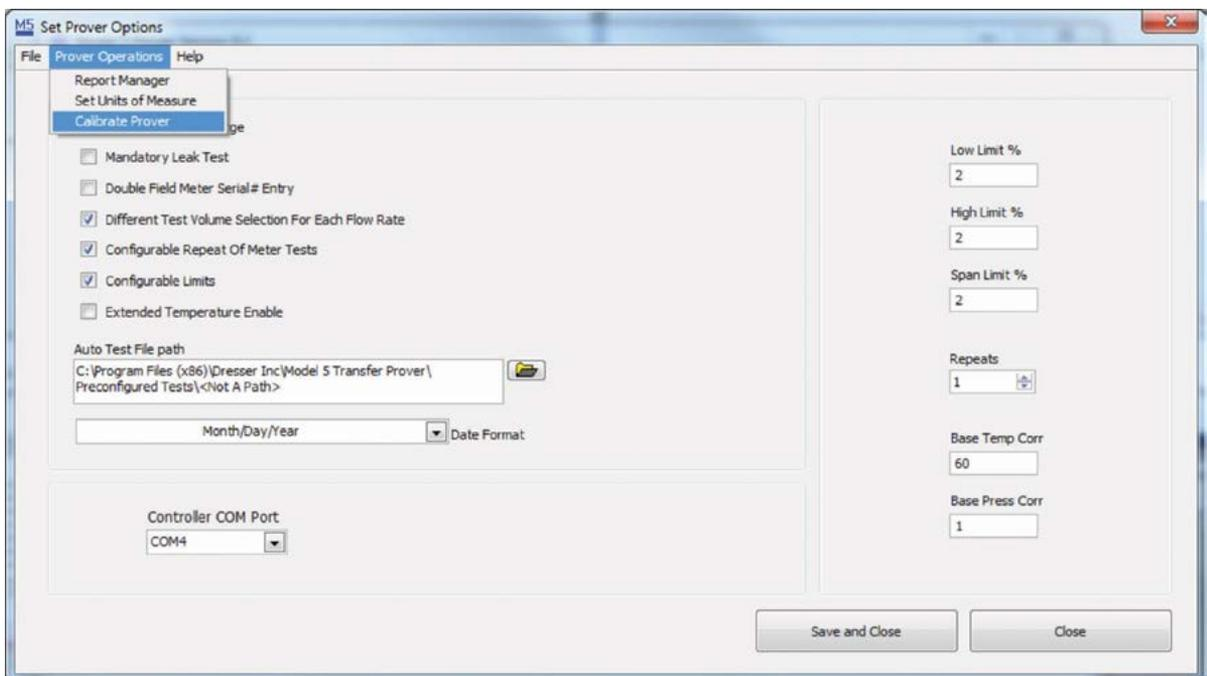

Figure 124: Calibrate Prover
- Click “Prover Operations”. Then click, “Calibrate Prover” as shown in **Figure 124**. The password is “DRESSER”.